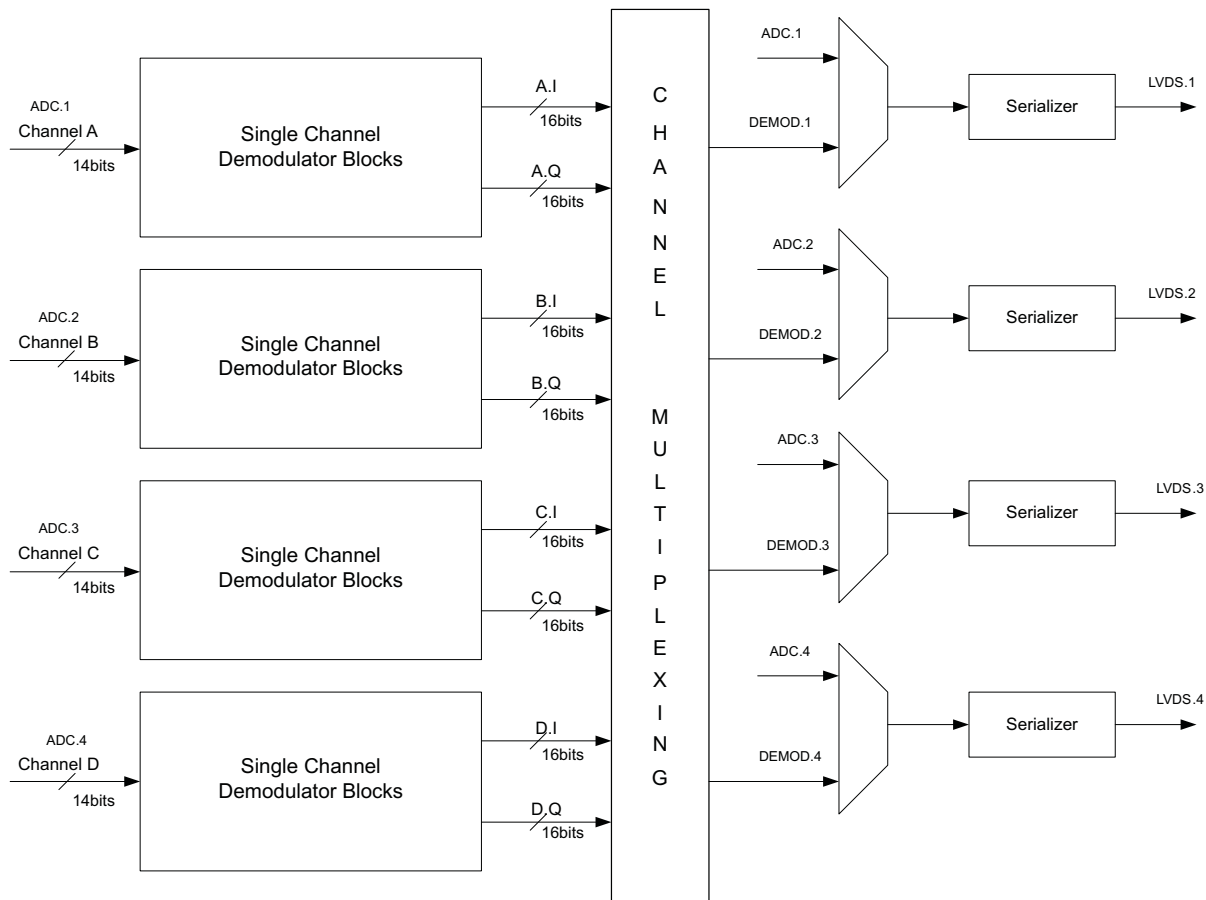

Figure 91. Channel Multiplexing
3. Decimator Block has two functions, Decimation Filter and Down Sampler. Decimation Filter is a variable coefficient symmetric FIR filter and its coefficients can be given using Coefficient RAM. Number of taps of FIR filter is $16 \times \text{decimation factor (M)}$. For decimation factor of M , $8M$ coefficients have to be stored in Coefficient Bank. Each coefficient is 14 bit wide. Down-sampler gives out 1 sample followed by $M-1$ samples zeros.
4. In Figure 91, channel multiplexing is implemented for flexible data routing. :